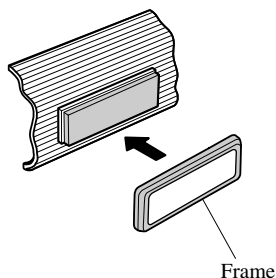

Fig. 16
3. After installing the unit into the dashboard, attach the frame. (Fig. 16)